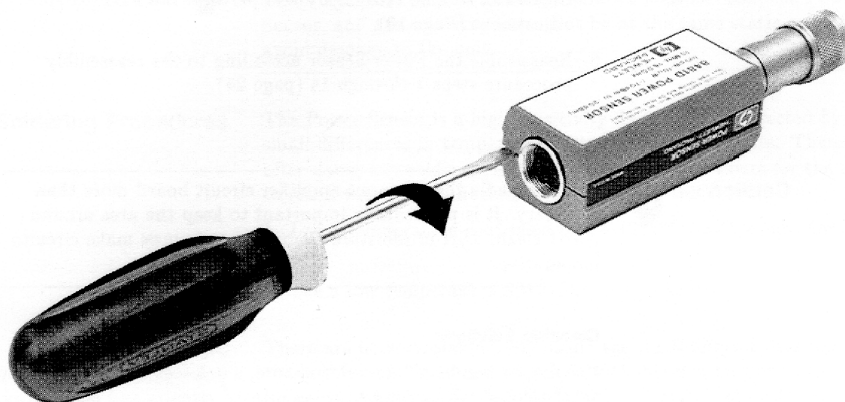

Figure 26 Removing Power Sensor Shell
1. At the rear of the power sensor, insert the blade of a screwdriver between the plastic shells (See Figure 26). To prevent damage to the plastic shells use a screwdriver blade as wide as the slot between the two shells.